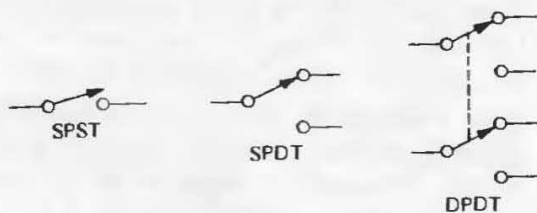

Figure 1.98. Fundamental switch types.
**Toggle switches.** The simple toggle switch is available in various configurations, depending on the number of poles; Figure 1.98 shows the usual ones (SPDT